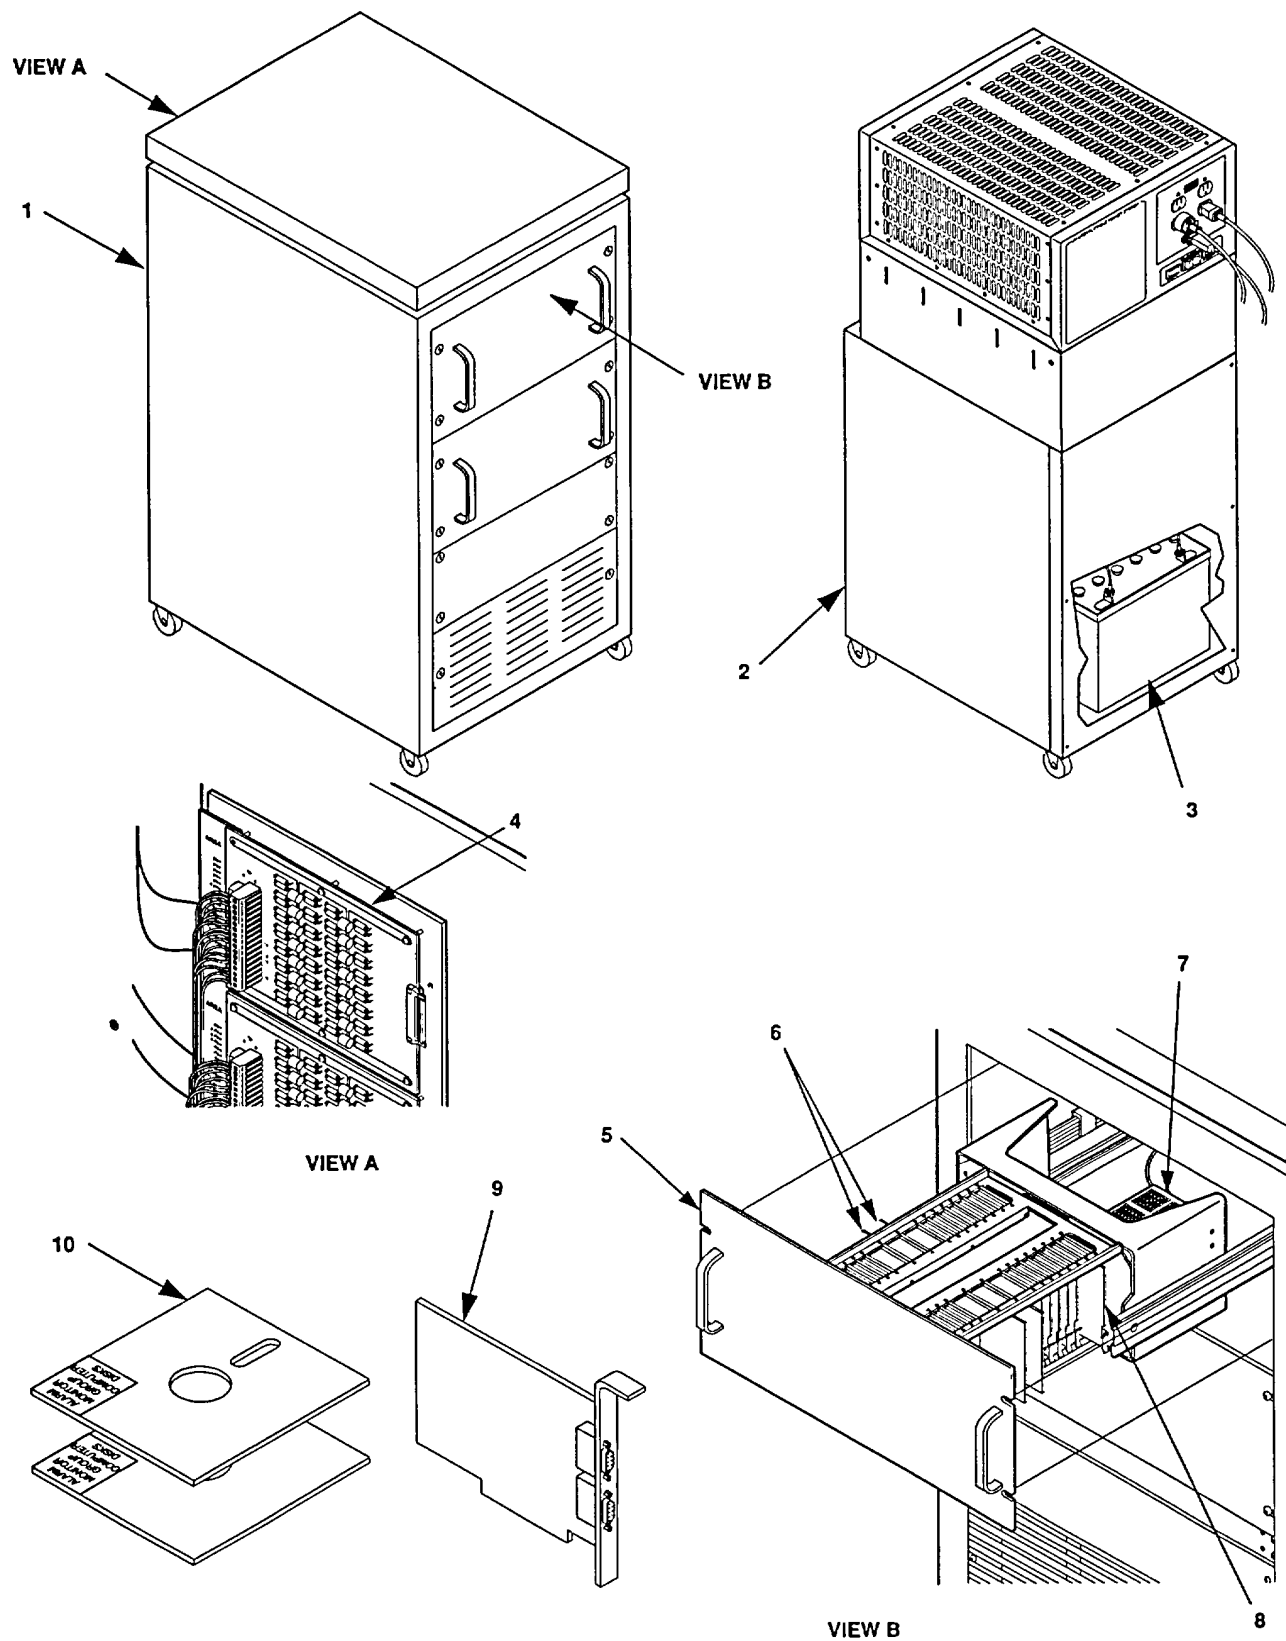

Figure 1-2. AMG Major Components.
1.11.1 Location of Major Components. Table 1-2 provides the major components indexed to figure 1-2 for major components with a brief description.